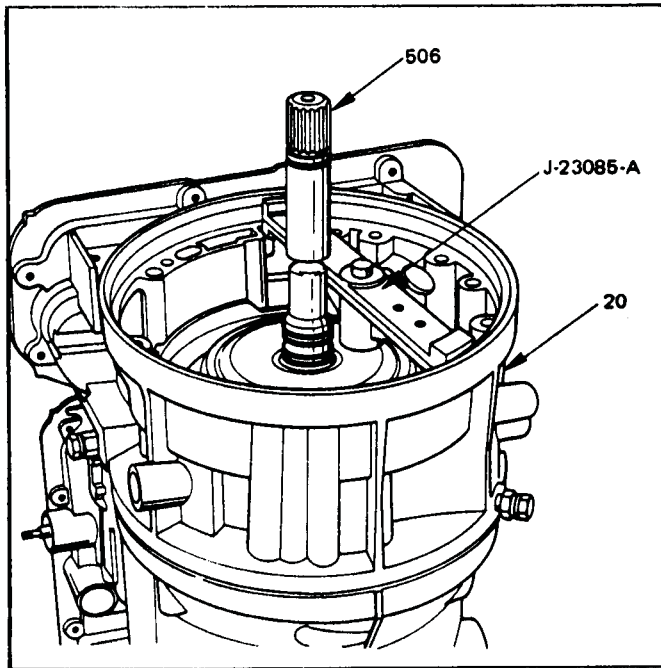

Figure 107
1. Install J-23085-A gaging tool onto the adapter case flange, as shown in Figure 107.
2. Loosen the thumb screw and position the inner shaft of the gaging tool on the washer surface of the overrun clutch housing, as shown in Figure 107.